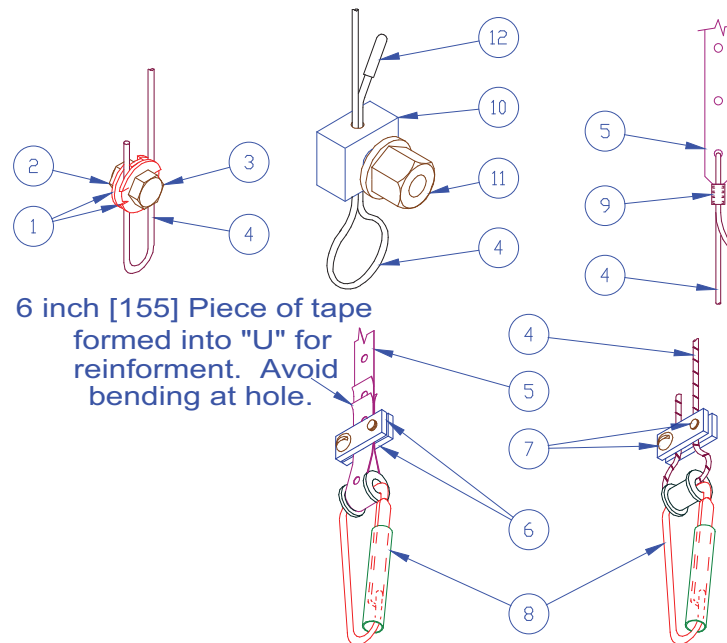

Figure 4: Cable Clamps
11. Install the cable to the float connector with the clamps and screws provided (see Figure 4 on page 10).